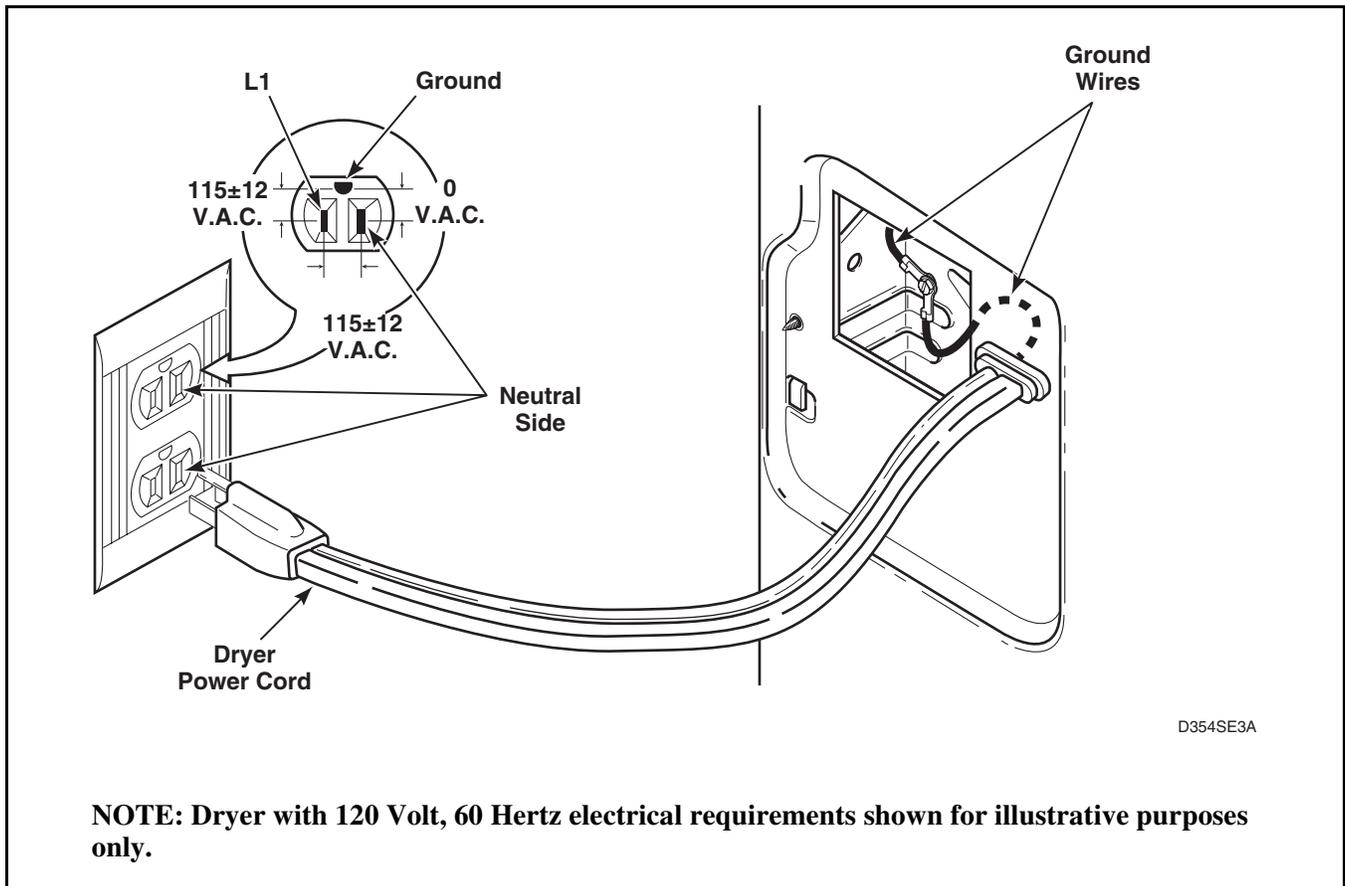

Figure 39
- (1) Remove access plate on rear of cabinet.
- (2) Remove strain relief.
- (3) Remove screw holding power cord ground wire to rear bulkhead. Refer to *Figure 39*.
- (4) Disconnect moxex plug and remove power cord from rear of dryer cabinet.